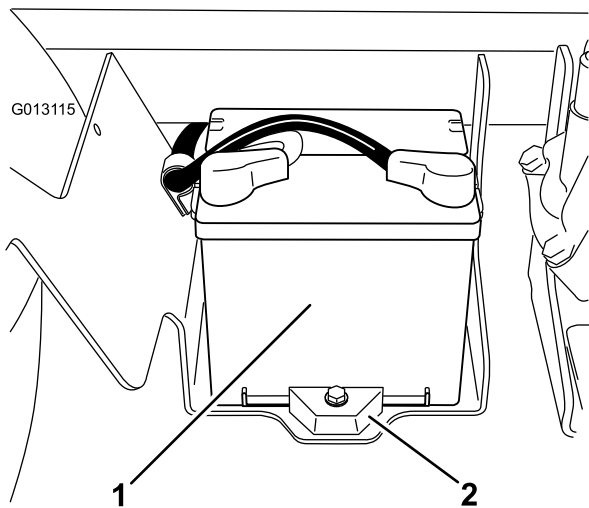

Figure 55
2. The battery is located on the right hand side of the machine behind the pump (Figure 55).
5. Remove the battery retainer and fasteners (Figure 55).
2. Install the battery retainer and secure it with the fasteners you removed previously (Figure 55).
4. Install the battery cover and secure it with the 2 knobs (Figure 55).
1. Loosen the knobs on the sides of the battery box and remove the battery cover (Figure 55).